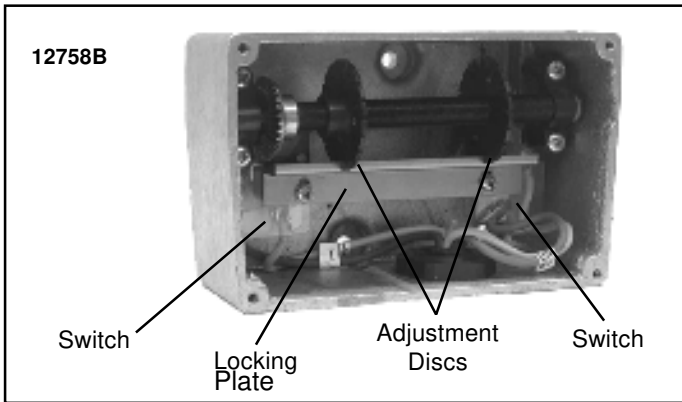

Figure 7-2. Screw-Type Limit Switch Adjustment (Wires Not Shown for Clarity.)
- b) **Procedure.** Remove load from the hook. To disconnect the geared limit switch, refer to Figure 7-2. Remove the limit switch cover then loosen the two (2) screws holding the locking plate in place. Allow the locking plate to slide down and disengage from the adjustment discs. Do not rotate the adjustment discs.
Position the lower block three inches (3") below the point where the block operated limit switch is activated. The geared limit switch shall be reconnected by sliding the locking plate back into position ensuring slots on adjustment discs are fully engaged and tightening locking plate screws to 4 in-lbs. (See Figure 7-2). The geared limit switch must then be tested.
This limit switch has a rotary screw driven by a gear reduction that is coupled to the end of the drum shaft. Adjustment discs operate the contacts of separate switches, one for the hoisting circuit and one for the lowering circuit. The switch assembly must be wired in accordance with the appropriate wiring diagram, which is shipped with the hoist. Instructions for adjusting limit switch are inside cover and are repeated below (see Figure 7-2).